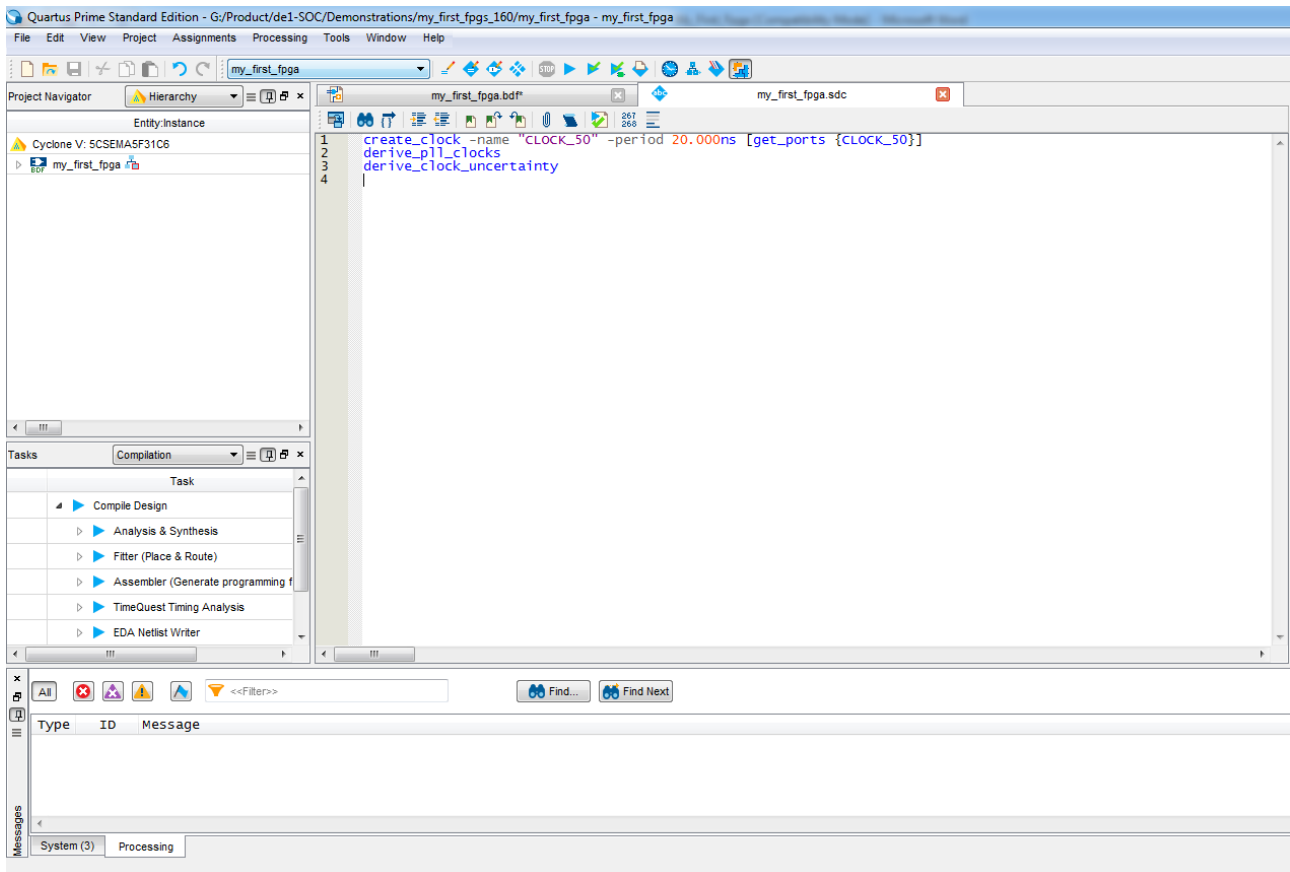

Figure 3-33 Default SDC
4. Save this file as my_first_fpga.sdc (see Figure 3-33).